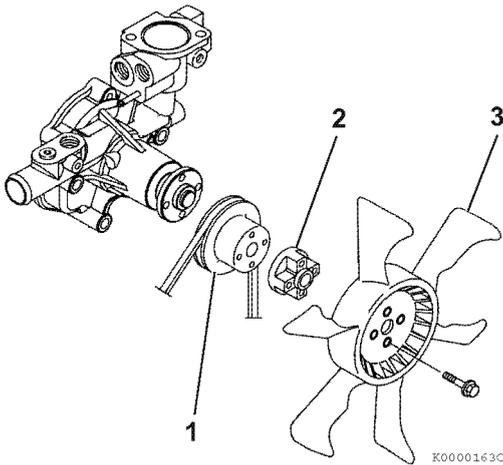

Figure 9-4
1. Remove the cooling water fan guard (if equipped), cooling fan (3, **Figure 9-4**), spacer (2, **Figure 9-4**), cooling water pump V-pulley (1, **Figure 9-4**), and V-belt.